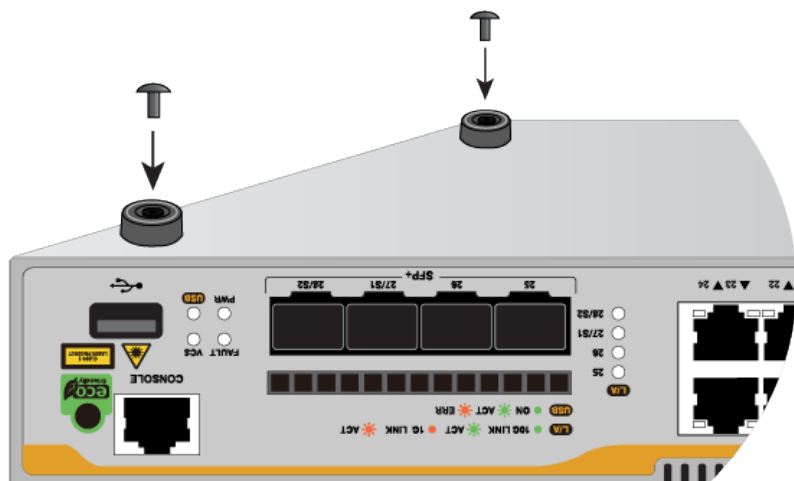

Figure 25. Inserting the Rivet into the Bumper Foot
5. Insert the rivet to secure the bumper foot to the base. See Figure 25.